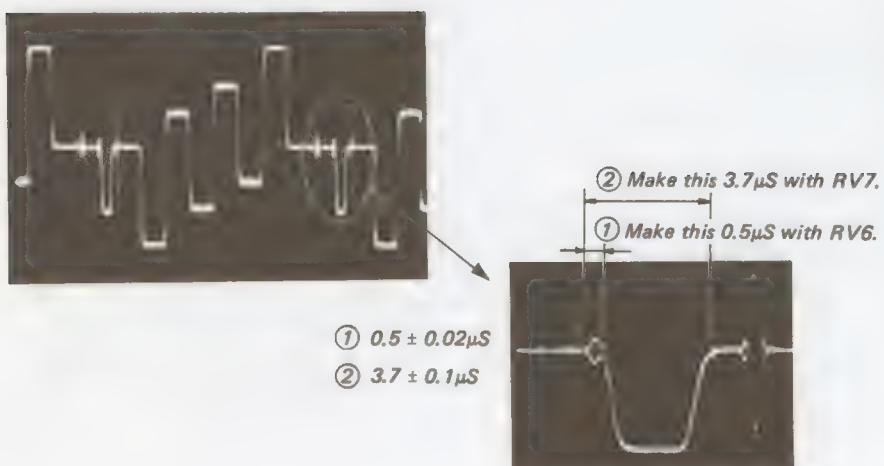

Fig. 5-43.
4. Adjust the burst gate pulse width with RV 6 and RV 7 on the BA board. (See Fig. 5-43.)